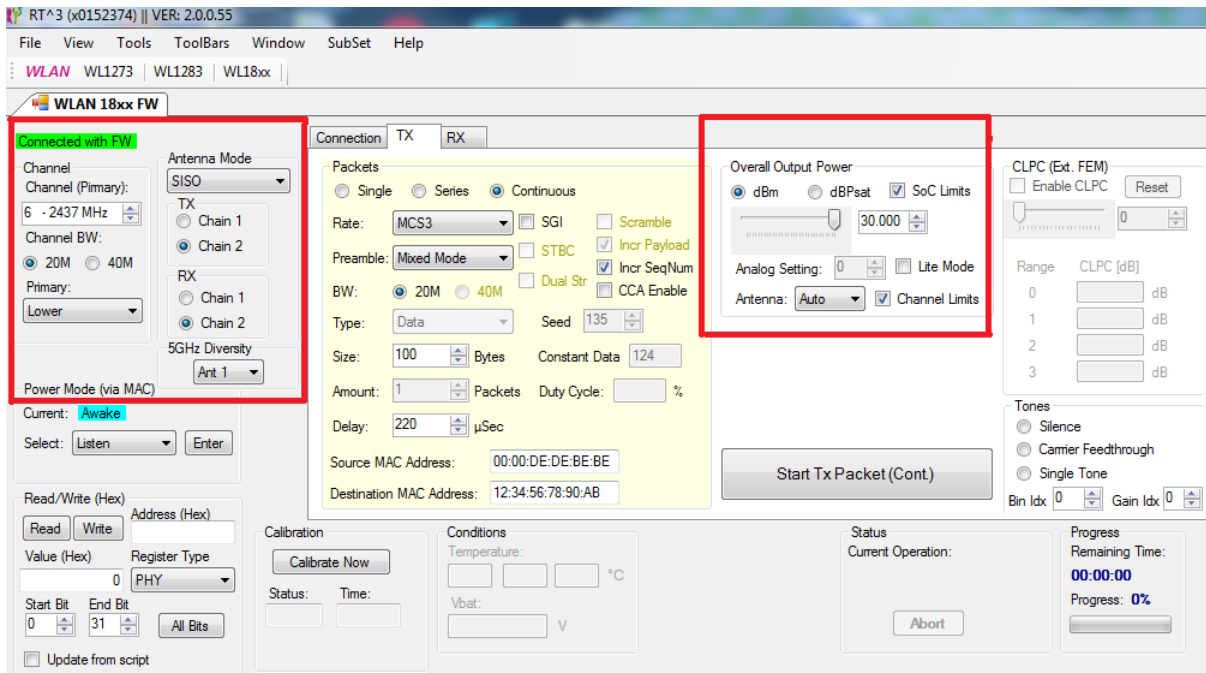

Figure 18. WLAN 18xx FW Tab
To test the output power on the WiLink 8 device, perform the following steps (see Figure 18):
3. Using the slider, select a power setting of 30 dBm (see Figure 18).